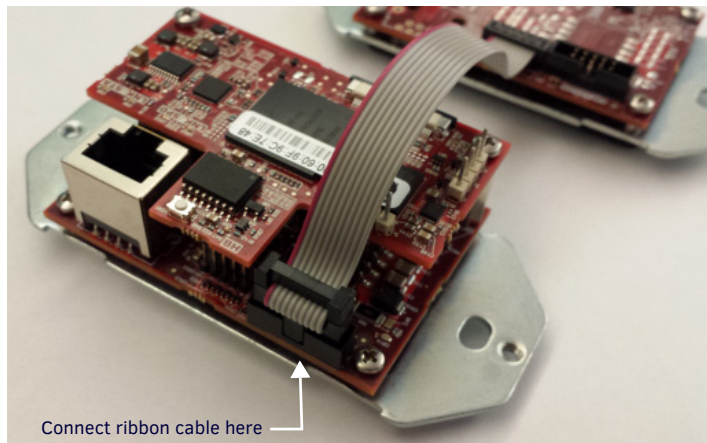

FIG. 1 DAISY-CHAIN CONNECTION BETWEEN THE MET-13X AND AN ETHERNET KEYPAD
2. Connect the ribbon cable on the expansion keypad to the expansion cable connector on the rear of the Ethernet keypad (see FIG. 1).